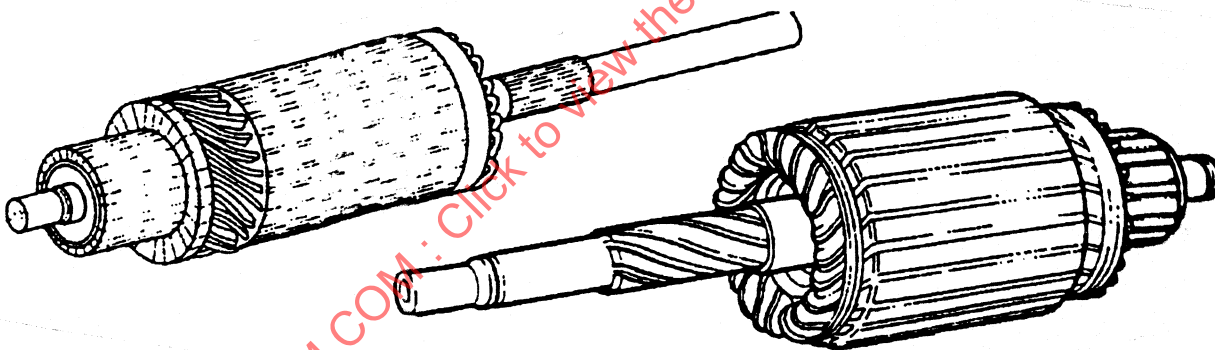

Figure 1—STARTER ARMATURE ASSEMBLY
4.1 This document provides a standard procedure for remanufacturing starter armatures similar to the armature shown in Figure 1.